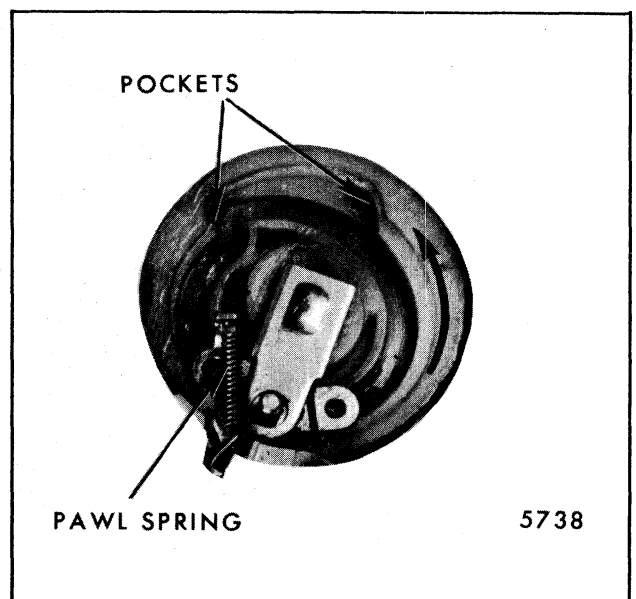

Fig. 2-93-Drive and Lock Pawl Guide Pin Pockets
3. Holding the gear, manually rotate the drive plate in the direction of the arrow until the drive and lock pawl guide pins fit into the gear pockets (Fig. 2-93).